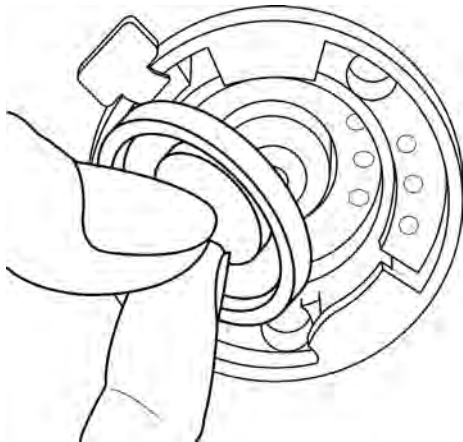

Figure 8.9 Removing the membrane
8. To remove the valve body, press down on the lever shown in figure 8.9, turn the valve body counter clockwise until the fins of the locking mechanism release and pull out. This will expose the membrane.